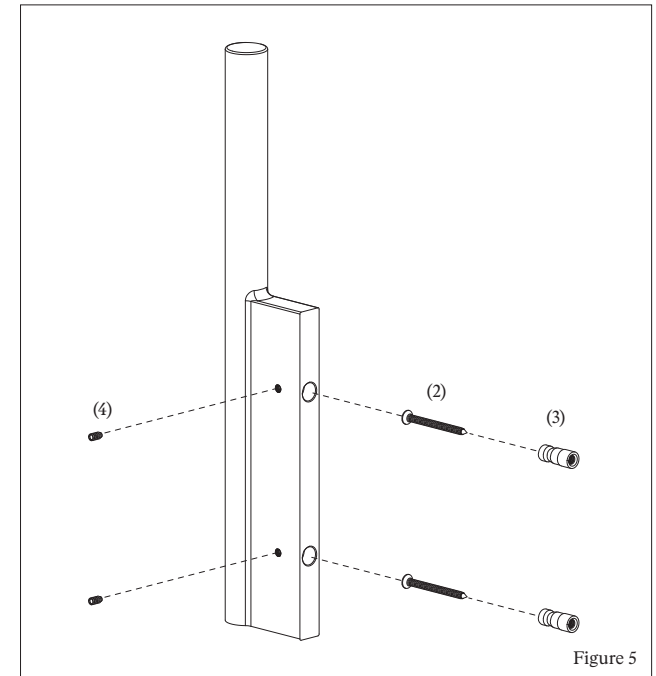

Figure 5
- 2.4 Place pull handle on pencil spindles and tighten grub screws to secure. (Figure 5)